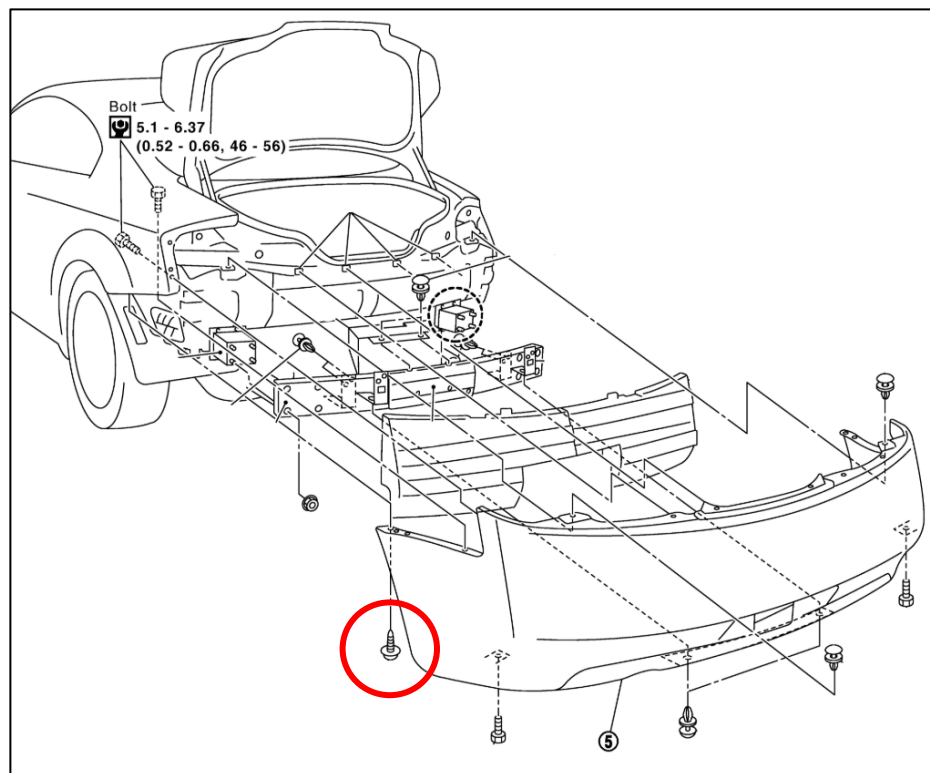

Figure 9
22. Remove the (2) two screws, one in each fender well, that secure the Rear Bumper to the Rear Quarter Panel. *Figure 9.*